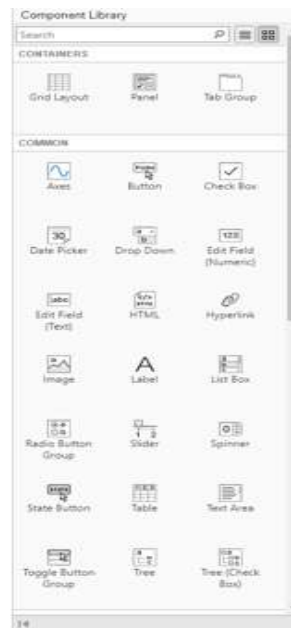

Figure 7: Component Library in App Designer
1. Now, there should be a **Component Library** on the Right Side of the **App Designer**. It should be something Like the Picture Shown in Figure 7. There are different **types of components** used for various types of things.